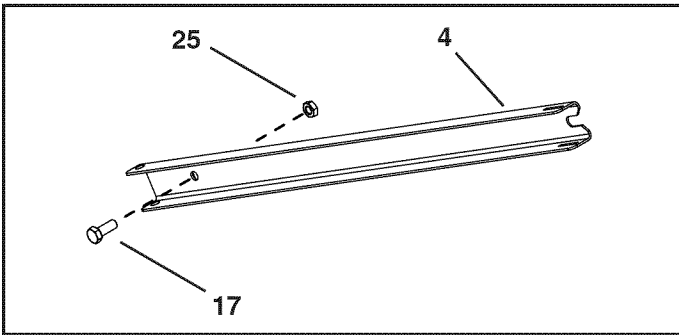

FIGURE 1
- (1) Hammer
STEP 1: (SEE FIGURE 1)
- Install a 5/16-18 x 3/4" hex bolt (17) and a 5/16" jam nut (25) in each bag arm channel.